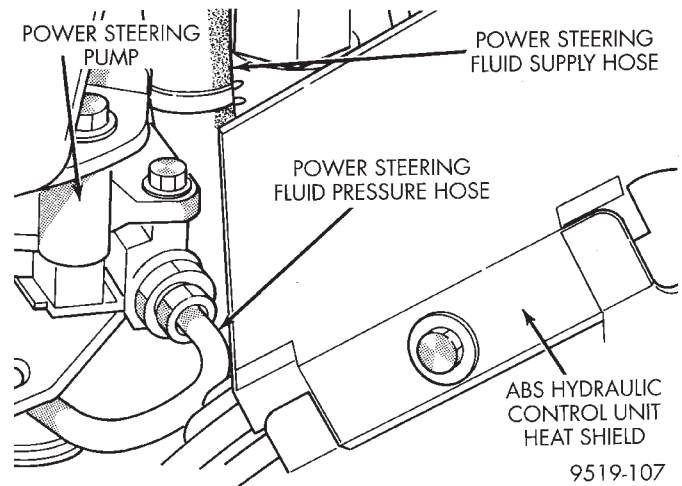
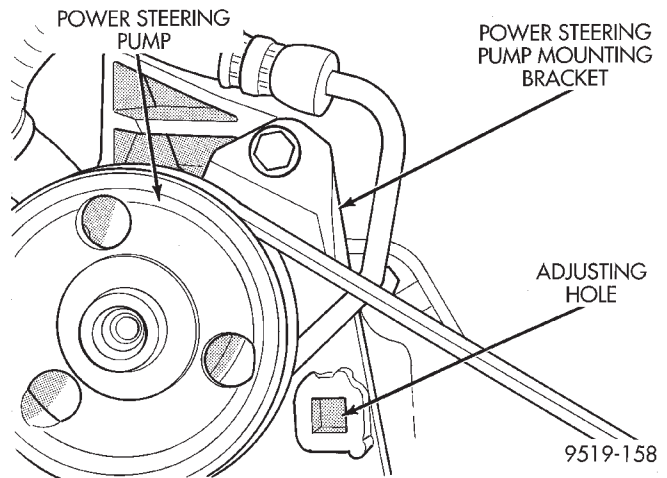

Fig. 18 Hydraulic Control Unit Heat Shield
Fig. 24 Power Steering Pump Front Mounting Bracket Adjusting Hole
(7) Remove the heat shield for the antilock brakes hydraulic control unit (Fig. 18).
(8) Install the power steering pressure hose to the power steering pump pressure fitting. Loosely install the flow bolt into the power steering pump. **Pressure hose must be installed between the front bracket of the power steering pump and the back side of the power steering pump pulley.**
(9) Install power steering pump drive belt on power steering pump pulley.
(10) Install a 1/2 in. breaker bar in the square adjusting hole in the front power steering pump mounting bracket (Fig. 24) Then rotate pump to obtain the correct drive belt tension. See Accessory Drive Belts in Group 7 Cooling System of this service manual for the correct drive belt tension specification. When correct drive belt tension is obtained first tighten the bottom 2 adjusting slot bolts at the power steering pump cast mounting bracket to a torque of 54 N·m (40 ft. lbs.). Then tighten the power steering pump mounting bracket top pivot bolt to a torque of 54 N·m (40 ft. lbs.).
(11) Position power steering pressure hose, so hose is not contacting the power steering pump pulley or the drive belt. Tighten the banjo fitting flow bolt to a torque of 47 N·m (35 ft. lbs.).
(12) Install heat shield on hydraulic control unit (Fig. 18).